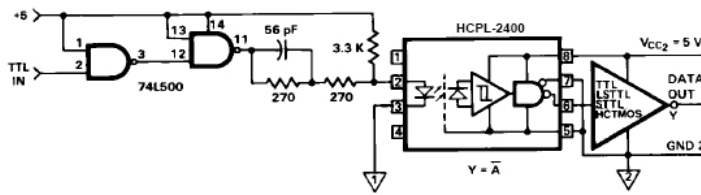

Figure 13. Recommended 20 MBd HCPL-2400/30 interface circuit.
- The typical data shown is indicative of what can be expected using the application circuit in Figure 13.
- This specification simulates the worst case operating conditions of the HCPL-2400 over the recommended operating temperature and V_{CC} range with the suggested application circuit of Figure 13.
A recommended LED drive circuit is shown in Figure 13. This circuit utilizes several techniques to minimize the total pulse-width distortion at the output of the optocoupler. By using two inverting TTL gates connected in series, the inherent pulse-width distortion of each gate cancels the distortion of the other gate. For best results, the two series-connected gates should be from the same package.
The circuit in Figure 13 also uses techniques known as prebias and peaking to enhance the performance of the optocoupler LED. Prebias is a small forward voltage applied to the LED when the LED is off. This small prebias voltage partially charges the junction capacitance of the LED, allowing the LED to turn on more quickly. The speed of the LED is further increased by applying momentary current peaks to the LED during the turn-on and turn-off transitions of the drive current. These peak currents help to charge and discharge the capacitances of the LED more quickly, shortening the time required for the LED to turn on and off.